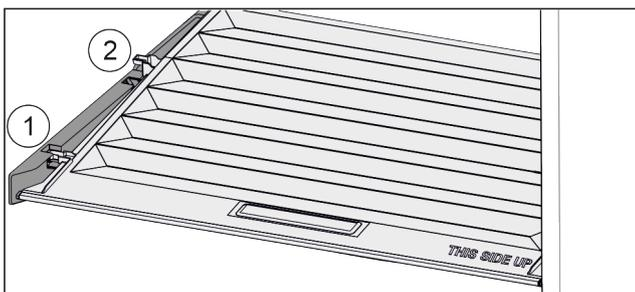

Fig. 54
- ▶ Pull the lid up at the front in the retaining parts to the opening Fig. 54 (1).
- ▶ Lift from the back and pull it up and out Fig. 54 (2).